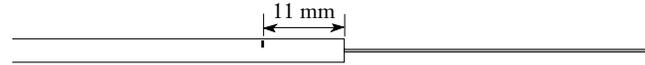

Figure 4-18
- 4.5-5 Measure and mark 11 mm from the end of the outer jacket (Figure 4-18).